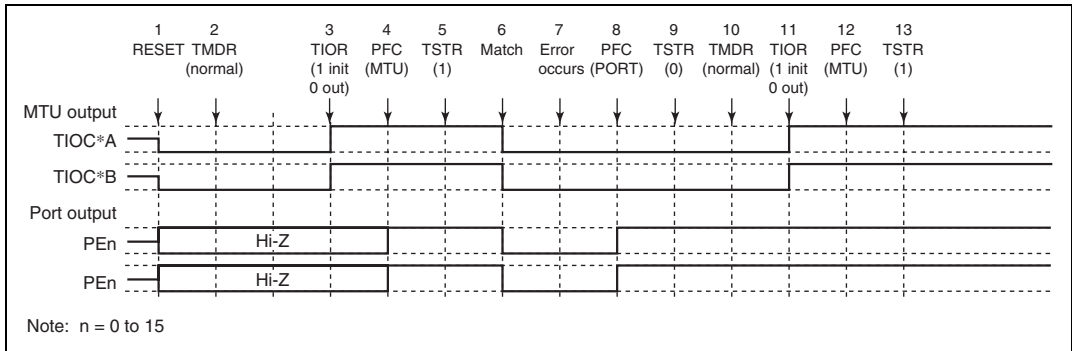

Figure 10.60 Error Occurrence in Normal Mode, Recovery in Normal Mode
(1) Operation when Error Occurs during Normal Mode Operation, and Operation is Restarted in Normal Mode: Figure 10.60 shows an explanatory diagram of the case where an error occurs in normal mode and operation is restarted in normal mode after re-setting.
1 to 9 are the same as in figure 10.60.
- 1 to 9 are the same as in figure 10.60.